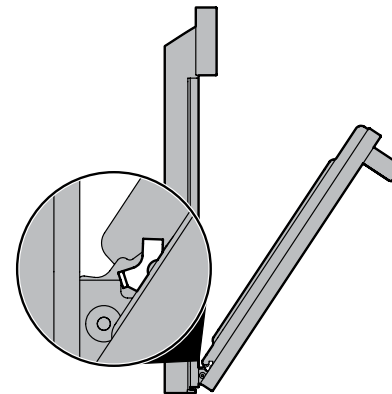

Figure 20: Removal position
3. Grasp the door by the sides, and close the door until the door frame makes contact with the unlocked hinges (Figure 20).
2. Hold the oven door at the same angle as the removal position (Figure 20) Carefully insert the hinge levers into the oven frame until you feel the hinge levers are seated into the hinge notches. The hinge arms must be fully seated into the hinge notches before the oven door can be fully opened.